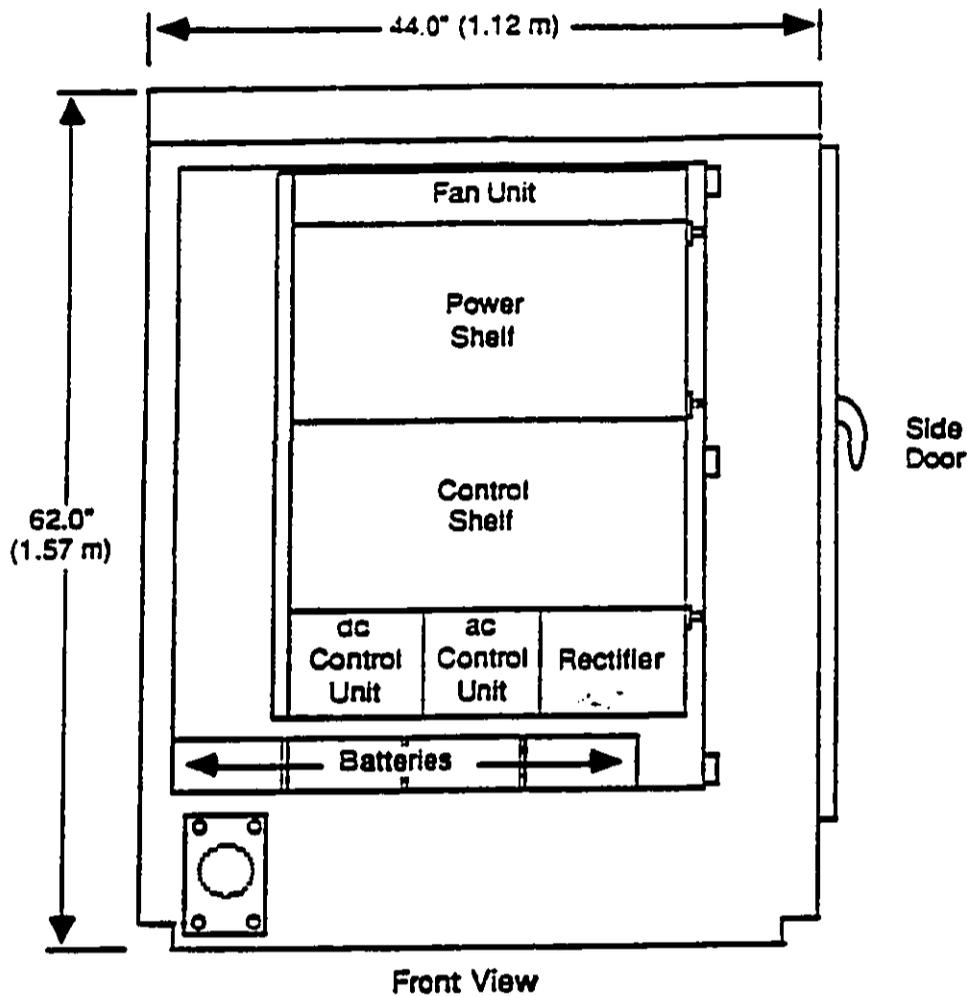

Fig. 1-1
1.04 The cabinet consists of four parts (see Figs. 1-1 through 1-4):
1.07 A hinged bay frame houses the DMS-1 Urban RT equipment and the rectifier (see Fig. 1-1). The frame is secured in position with locking latches at the upper part of the frame. A shipping strap is provided to secure the frame during transportation of the cabinet.